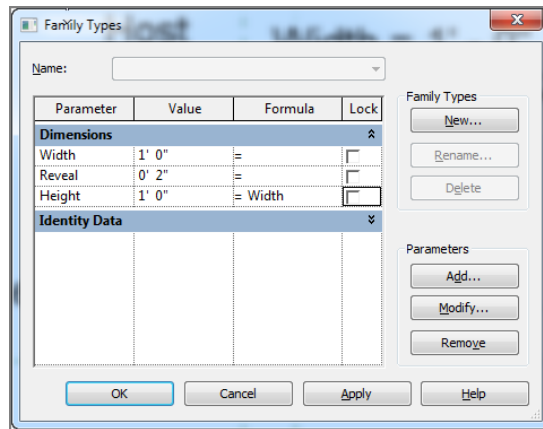

FIGURE 17.9: The Height parameter is now constrained to the Width parameter.
3. Type Width, and press the Tab key (see Figure 17.9).